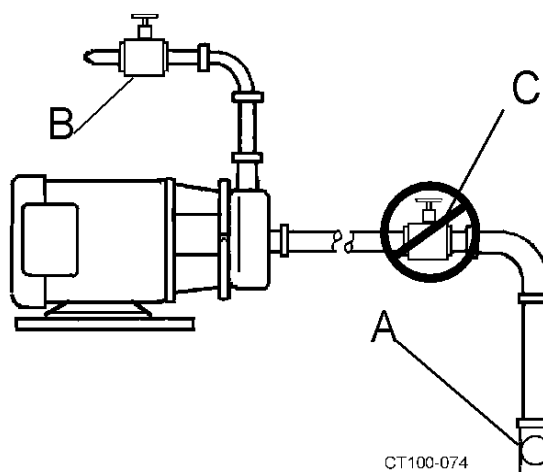

Figure 6 - Valve Piping Installation
- This pump is not self priming. If pump is installed above supply liquid level, install foot valve or other system check valve to keep system flooded for priming. (Figure 6, item A).
- A throttling valve may be required to control pump flow rate to prevent motor overload. Always install throttling valve (Figure 6, item B) in discharge piping and at least 10 diameters from pump outlet.
- **Never** install throttling valve in supply piping. (Figure 6, item C).